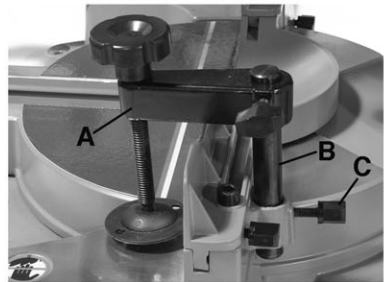

Figure 4
The vertical vise (A) Fig.4 can be installed in two positions on either the left or right side of the guide fence. Insert the vise rod (B) into the hole in the guide fence and tighten the vise lock knob (C) to secure the vise rod.